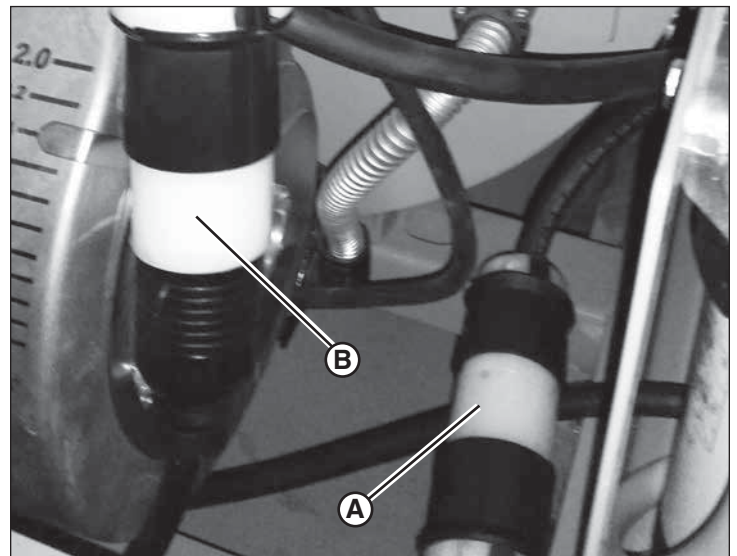

Figure 21
3. Locate the electrical connection near the floor of the heating unit control access compartment (A, Figure 21). Unplug the connection.
*NOTE: Use the connector specified (A). Do not use the connector going directly to the heater unit power box (B).*